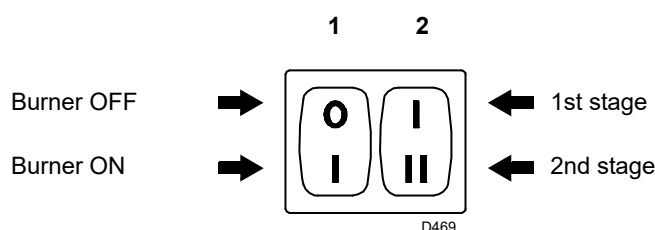
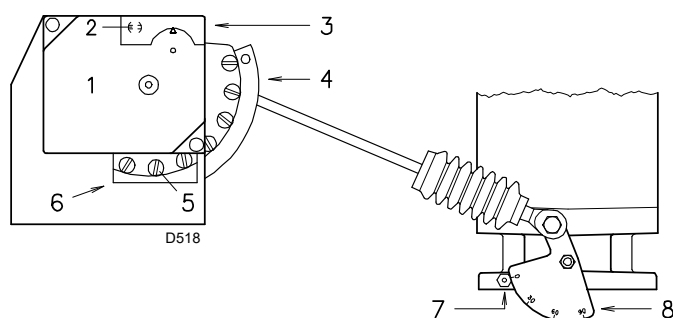

Fig. 25
Fig. 26
- switch 1)(Fig. 25) in "**BURNER ON**" position;
- switch 2)(Fig. 25) in "**1st STAGE**" position.
In the above description, we left the burner running, operating in 1st stage. Now move switch 2)(Fig. 25) to 2nd stage position: the servomotor will open the air damper and, at the same time, the gas butterfly valve at 90°.
Progressively adjust the end profile of cam 3) (Fig. 26) by turning the screws 5).
Move the switch 2)(Fig. 25 on page 22) in "1st STAGE" position: the servomotor 1)(Fig. 26) will close the air damper and, at the same time, will also close the gas butterfly valve to 15°, i.e. to the factory setting.
- If it is necessary to increase it, pass to 2nd stage by activating switch 2)(Fig. 25 on page 22) and slightly increase the angle of the cam St1 with small, regular movements, i.e. bring it from an angle of 15° to 17° - 19°...
Progressively adjust the initial profile of the cam 3)(Fig. 26) by turning the screws 4). If possible, do not turn the first screw, since this is used to set the air damper to its fully closed position.
Turn off the burner using the switch 1)(Fig. 25 on page 22) and turn the intermediate screws of the cam so that the cam tilt is progressive.